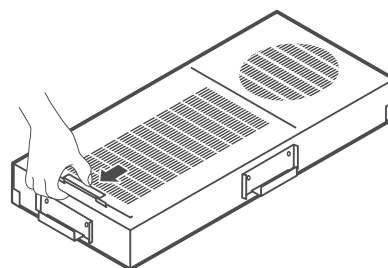

FIGURE 9A:
1. Find and open the front panel door on the TCQ by sliding the door toward the end of the TCQ to disengage the lock (see figure 9A).